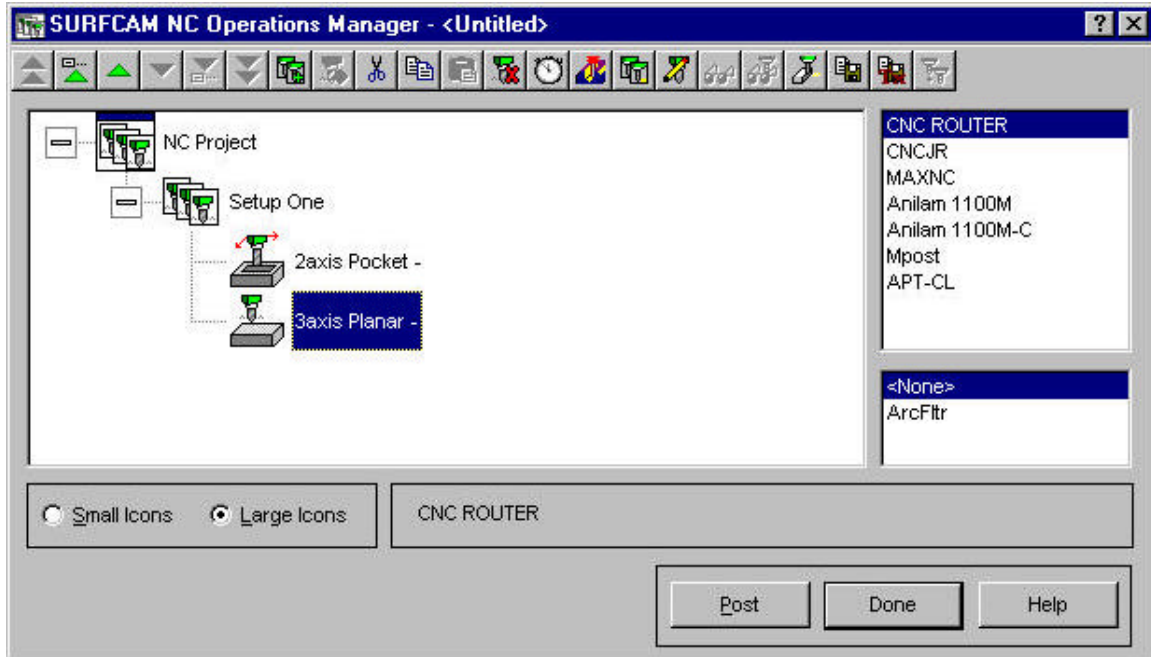

Figure 18: Operations manager screen
- 1.) Return to the main menu of SurfCAM. On the tool bar, press the operations manager button, . This will open the tool path screen. Refer to figure 18.